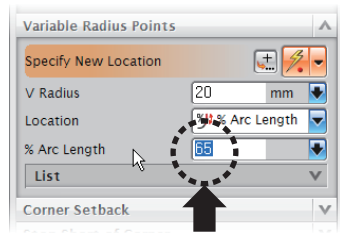
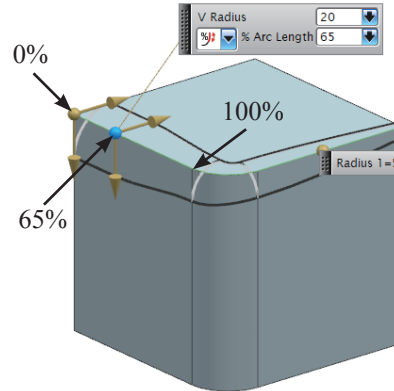

Fig 6-35 % Arc Length Value
Fig 6-36 Location of % Arc Length
11. Enter 65 in the **% Arc Length** input box designated by the arrow in Fig 6-35 and press the **Enter** key. The new location of V Radius = 20 mm point is previewed as in Fig 6-36.